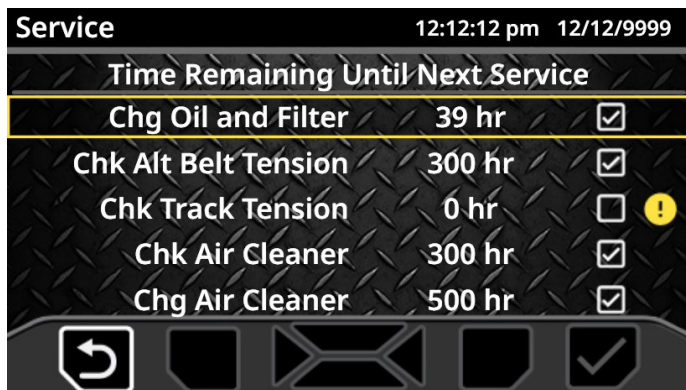

Figure 4-6. Vehicle Service Menu
15. **Dump Valve Control Levers (Figure 4-6).** Located on the hydraulic pumps, used to "free-wheel" the track loader. Rotating the levers clockwise until they stop (closed) allows the unit to move under hydraulic power. The levers must be in this position and torqued to 10 lb.-ft. during operation of the track loader. Rotating the levers counter-clockwise (open) allows the track loader to be moved by hand (free-wheeling). Rotate levers no more than 2 turns.
The Vehicle Service menu indicates the time remaining until the service is needed. When service has been completed check the indicator box, the countdown will restart. When service is required there will be a yellow indicator by the type of service to perform. See Figure 4-6. See the operator's manual or dealer for service.